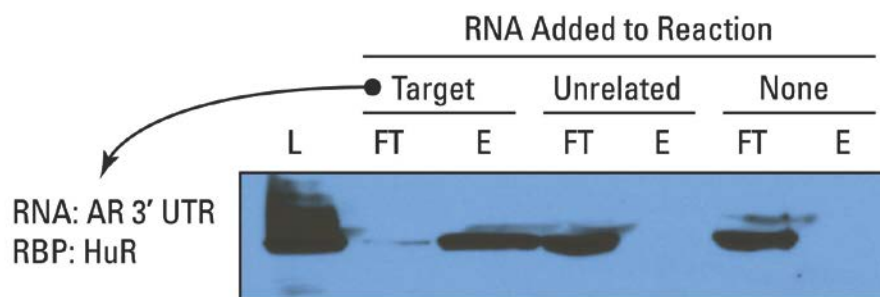

Figure 1. Androgen receptor 3'-UTR RNA specifically pulls down HuR.
The control system for the pull-down assay uses 3' untranslated-region androgen receptor (AR) RNA, poly(A)₂₅ RNA and mammalian cell lysate. The proximal 3' untranslated region (UTR) of AR RNA contains UC-rich regions for HuR and Poly(C) Binding Proteins (CP1 and CP2). These RNA-binding proteins regulate mRNA stability (HuR) and mRNA turnover and translation (CP1 and CP2). The negative control RNA [poly(A)₂₅ RNA] does not contain HuR or poly(C) BP binding sites. Incubation of A431 lysate with labeled AR UTR RNA enriches HuR RBP; incubation with only poly(A)₂₅ RNA or beads does not enrich HuR RBP (Figure 1). However, the control system is versatile, and other cell lysates will work as sources of HuR.